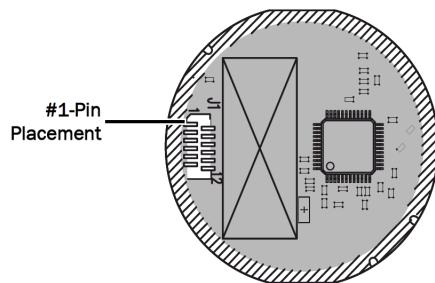

Figure 4. TM035035 - Pin #1 Placement Example
**Note:** The number one pin is on the left side of the connector (see Figure 4 on page 9). Connector pins engage FPC on pin 1 side. Install FPC with visible conductors on pin 1 side.